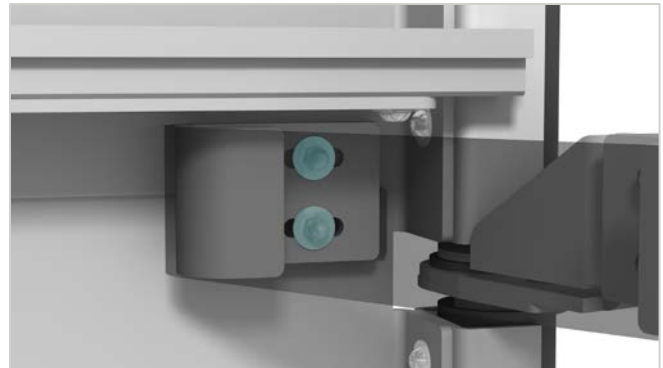

Figure 1 – Nuts and washers behind strap.
1. Using the $\frac{7}{16}$ " wrench, remove the nuts and washers located behind the tether strap. See **Figure 1** for hardware location.
3. Once the tether strap tension is satisfactory, use the $\frac{7}{16}$ " wrench to reinstall the nuts and washers. Tighten to a final torque of 75 in-lbs. See **Figure 1** for hardware location.